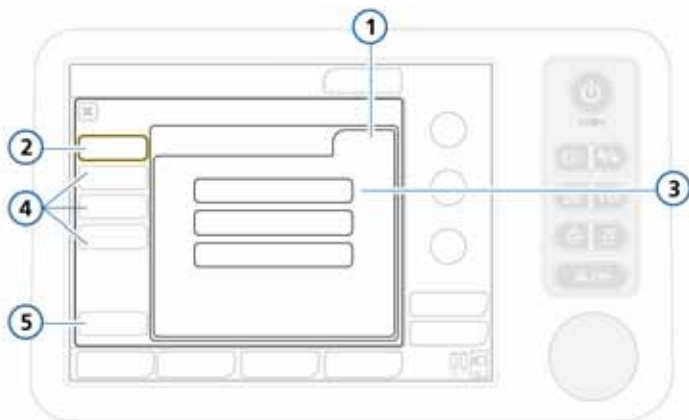

Figure G-8. Setup configuration window
The General setup configuration window is displayed (Figure G-8). Note that the buttons in the left panel now change to provide access to the setup options.
5. Select the configuration settings to apply to this setup by touching the appropriate button (Figure G-8):